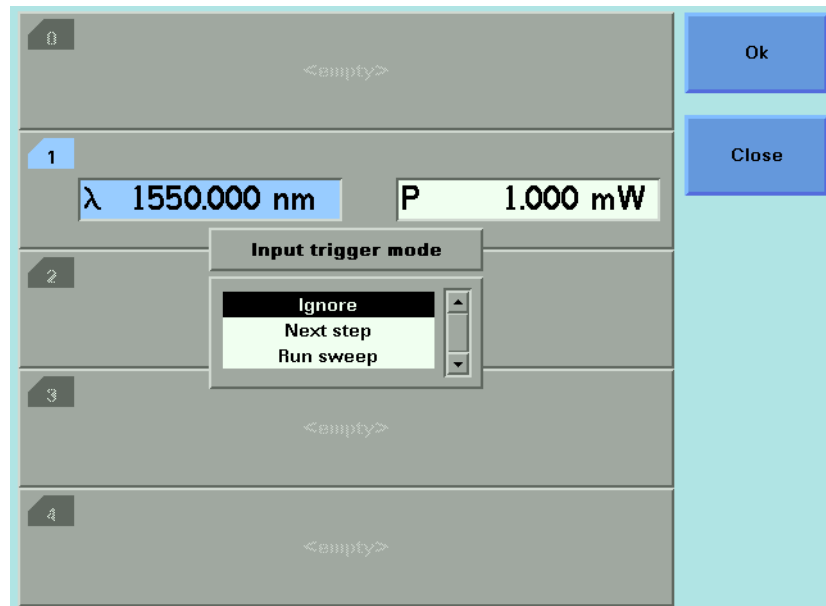

Figure 93 Input Trigger Mode
- 3 Move to *<Input Trigger Mode>*, by using the cursor key, and press ENTER. You will see the screen in Figure 93 on page -164.